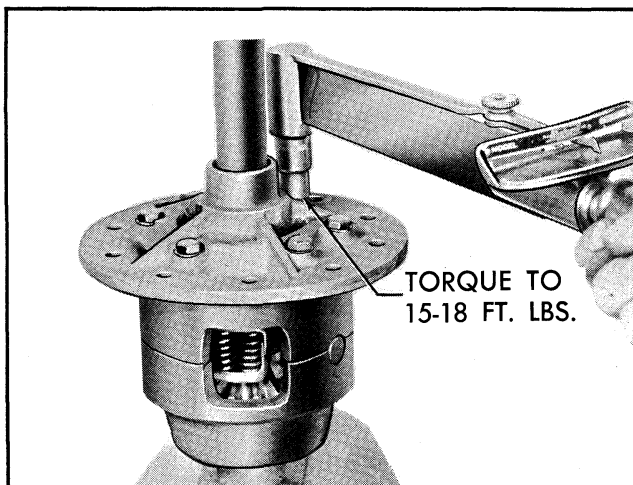

Fig. 4-53 Torquing Case Half Bolts
9. Install other axle shaft through flange half of differential case rotating axle to enter cone splines and then side gear splines. Leaving the axle shaft in this position, insert remaining bolts and tighten to 15-18 ft. lb. See Fig. 4-53.